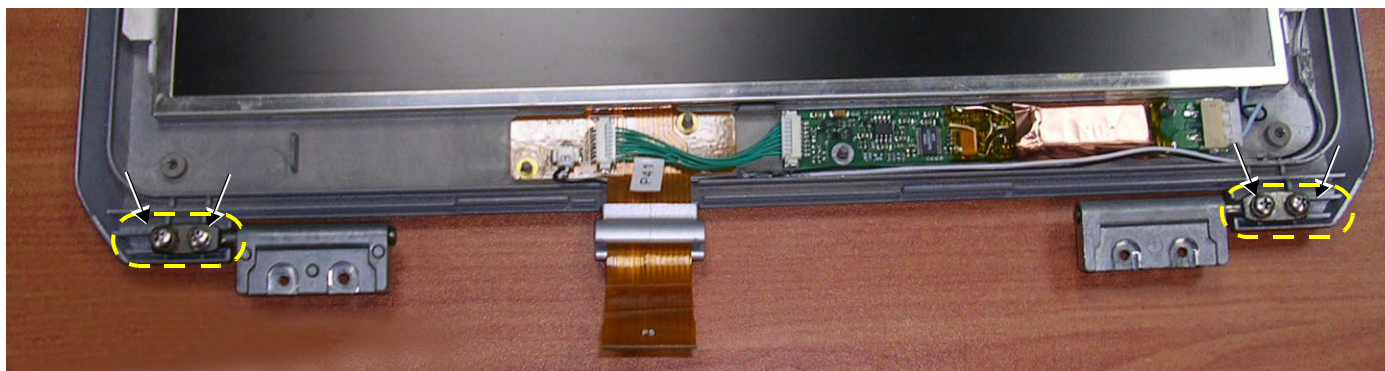

Figure 8-35 Hinges Secured to LCD Display Cover - Location of Screws
- 5.) Loosen and remove the 2 screws that secure the *left* hinge to the LCD Display cover (Figure 8-35), then carefully remove the hinge.
- 6.) Loosen and remove the 2 screws that secure the *right* hinge to the LCD Display cover (Figure 8-35), then carefully remove the hinge.
- 1.) Carefully place a replacement hinge in the correct position on the *right* side of the LCD Display cover (refer to Figure 8-35 on page 8-29). Return and fasten the 2 screws (previously removed) making sure the hinge is properly secured. *Do not over-tighten the screws.*
- 2.) Carefully place a replacement hinge in the correct position on the *left* side of the LCD Display cover (refer to Figure 8-35). Return and fasten the 2 screws (previously removed) making sure the hinge is properly secured. *Do not over-tighten the screws.*